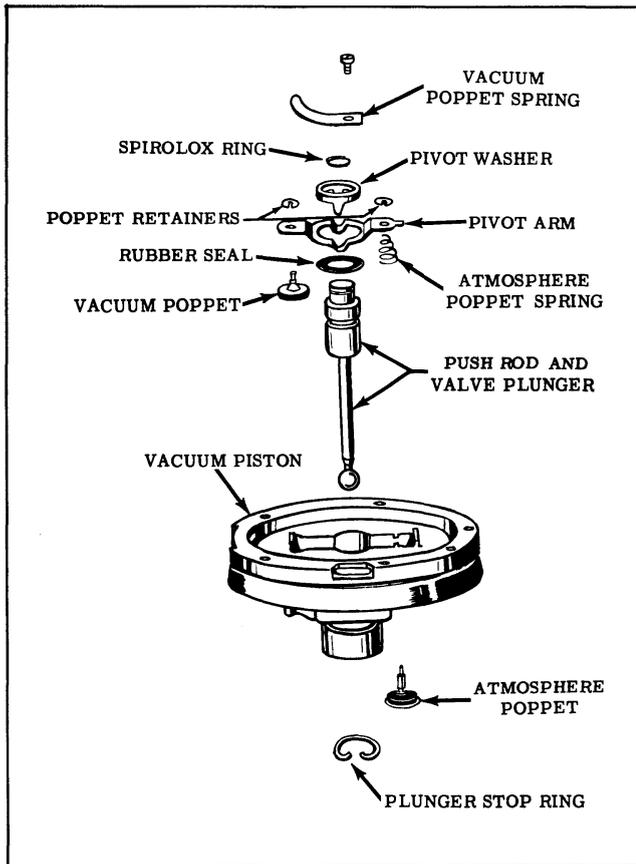

Fig. 7-44 Plunger & Poppet Assembly
6. Remove the vacuum poppet spring screw and spring from the piston. (See Fig. 7-44) Remove the atmosphere poppet retainer and poppet.